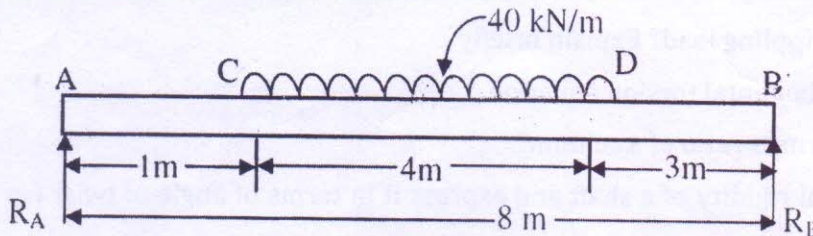

Figure 6(a).
- (b) A beam of 8m span is hinged at each end. It carries a uniformly distributed load of 2kN/m on the left half of the beam along with a 25kN load at 6m from the left-hand end. In addition the beam is also subjected to couples of 20kNm in counter clockwise direction at left-hand support and 30kNm in the clockwise direction at the right hand support. Determine the reactions at the ends and draw the shear force and bending moment diagrams indicating the principal values. (7)
- Q6 (a) A beam of length 8m is simply supported at its ends. It carries a uniform distributed load of 40kN/m as shown in figure 6(a). Determine the deflection of beam at its mid-point and also the maximum deflection and its position. Take $E=2 \times 10^5 \text{ N/mm}^2$ and $I=4.3 \times 10^8 \text{ mm}^4$. (7)